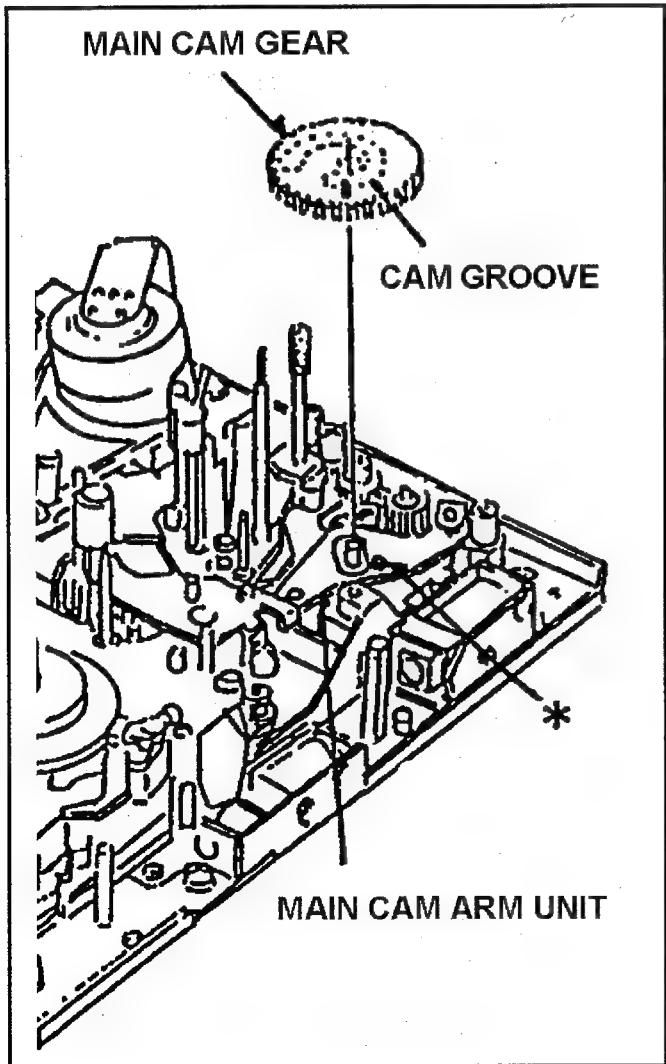

Fig. 10-16-1 Removal of Main Cam Gear
3. Remove the Pinch Solenoid Unit (Refer to item 10-5) and Loading Motor Neutral Unit (Refer to item 10-4).
4. Remove the Main Cam Gear as shown in Figure 10-16-1.
1. Install the Main Cam Gear so that the pin of Main Cam Arm Unit (\*) matches the groove position of Main Cam Gear as shown in Figure 10-16-1.
3. After installing, Pinch Solenoid Position Adjustment is required (Refer to item 1-2 of section 3).